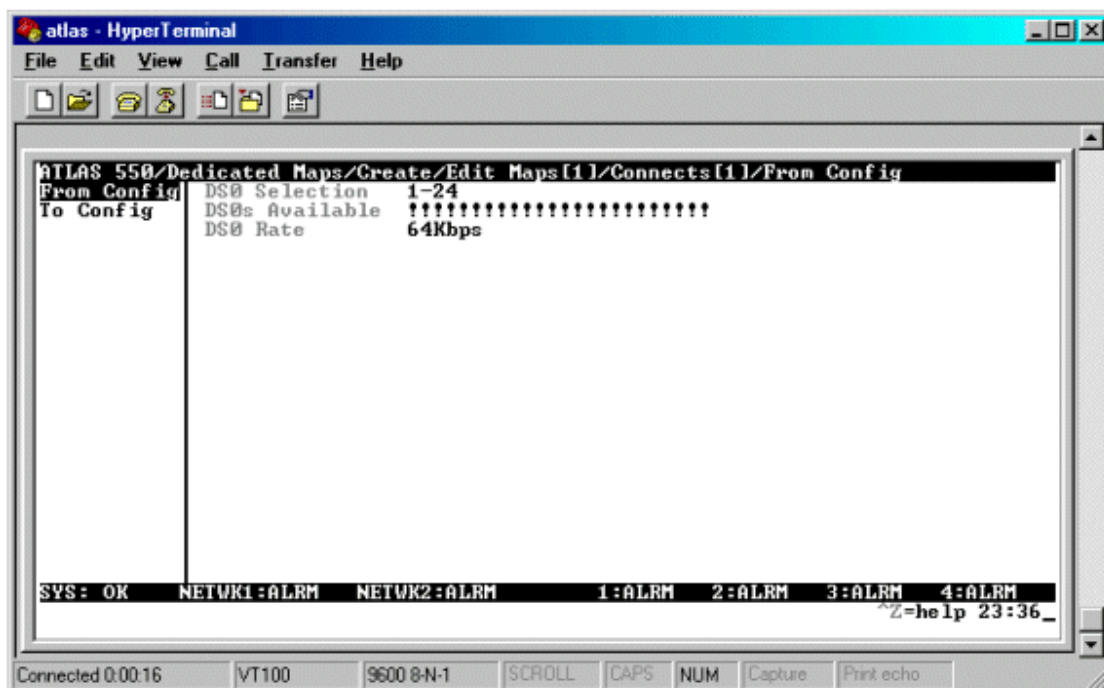

Figure 9
7. Press <enter> on the **From Config** option and the menu in **Figure 9** will be displayed.